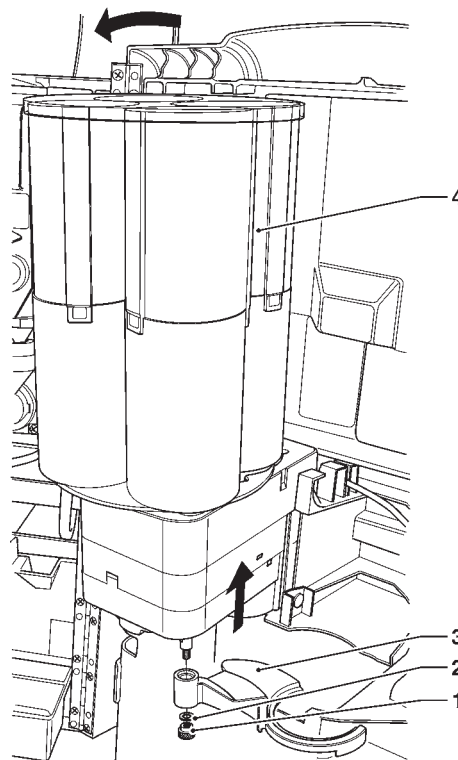

Fig. 7
- lightly lift the cup dispenser and recline it (see Fig. 7);